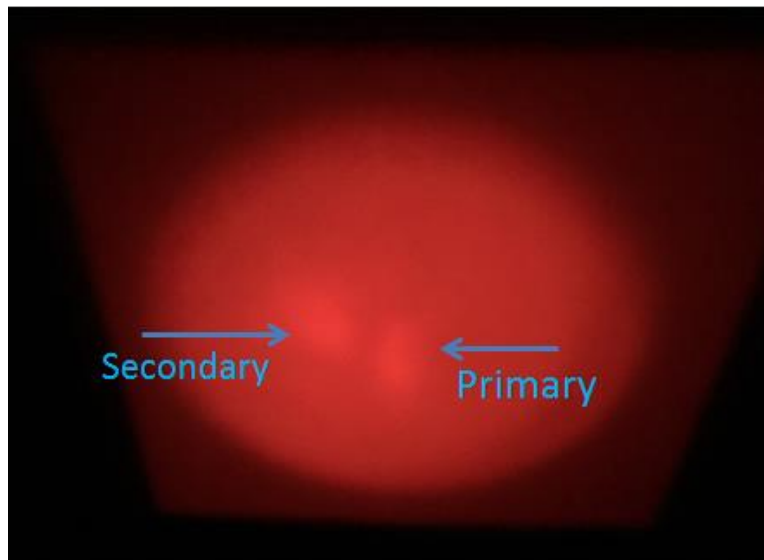

Figure 7: The secondary and primary image output of an IR light source.
2. As shown in Figure 7, there will be a circular output emitted from the flange. Within that circular output there will be a pronounced profile of the IR emitter caused by its reflection within the off-axis parabolic mirror. There will also be a less pronounced profile, with less light intensity than the primary image. This is caused by the IR emitter's reflection from the adjustable reflector assembly, and will be referred to as the secondary image.